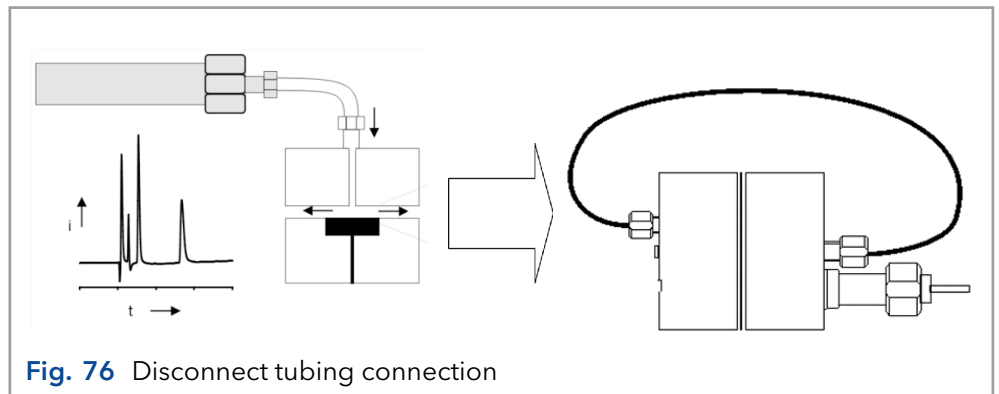

Fig. 76 Disconnect tubing connection
- Switch off the (U)HPLC pump.
- Disconnect the tubing connection from the column outlet (see Fig. 76).